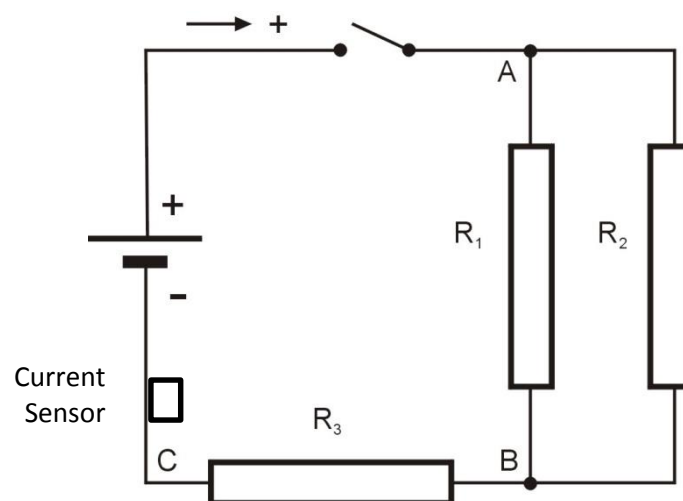

Figure 2
If there are more than two resistors in a network they may be connected in a combination of series and parallel connections. Figure 2 shows two resistors  $R_1$  and  $R_2$  connected in parallel. They in turn are connected in series with  $R_3$ . The arrow indicates the positive direction of the current.
7. Connect the Voltage sensor between points A and C (see Figure 2).